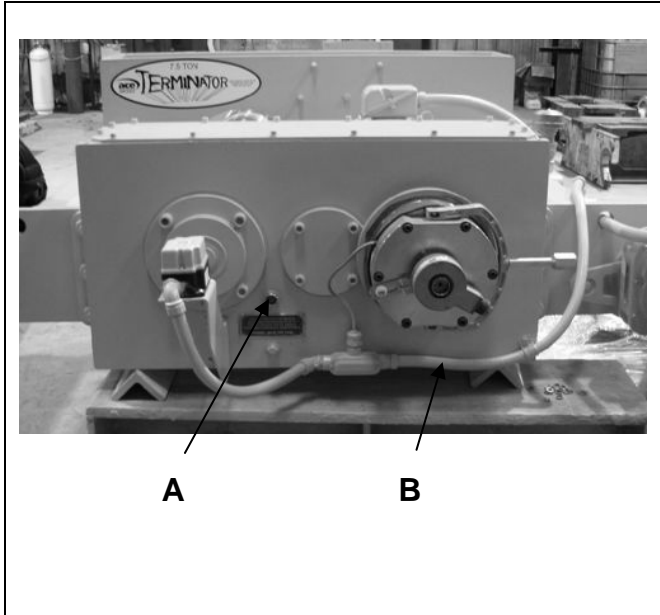
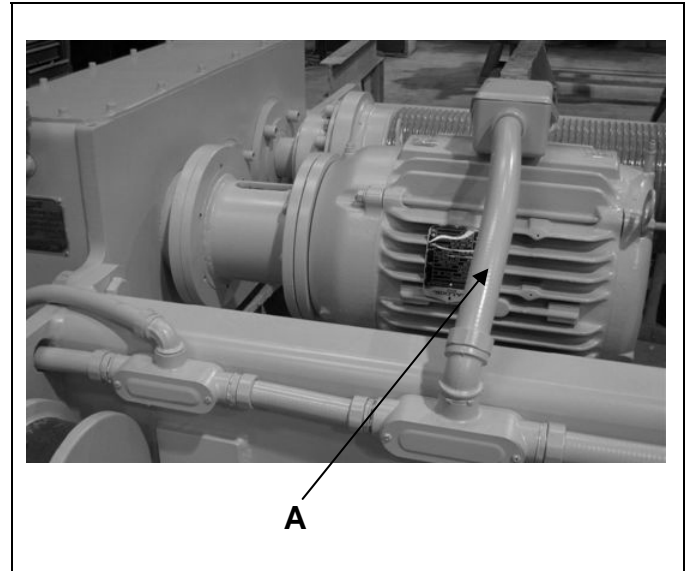

Fig. 3-1,
Fig. 3-2
- a) Before start-up, check the gearbox to be sure it is filled to the proper oil level with the correct type, grade, and amount of oil specified (Fig 3-1(A).
- b) Have required electrical connections been made, gearboxes equipped with an electric motor or control devices must be wired and checked for proper operation (Fig 3-1(B) and Fig 3-2(A).